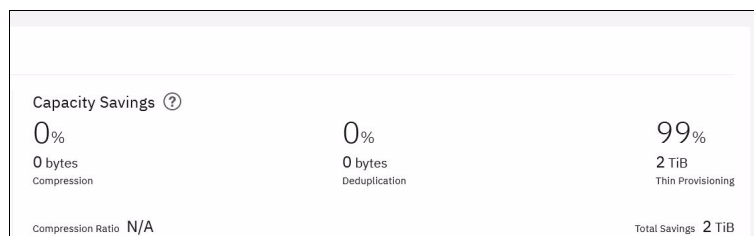

Figure 9-21 *Capacity Savings window*
*Capacity Savings* (Figure 9-21) indicates the amount of capacity that is saved on the system by using compression, deduplication, and thin-provisioning. The percentage value for each of these capacity savings methods compares the stored capacity *before* capacity savings is applied to the stored capacity *after* capacity savings is applied. Compression shows the total capacity savings that are gained from the use of compression on the system.